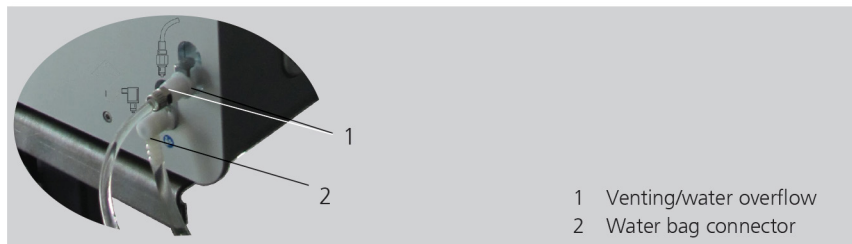

Fig. 7-3 Water hose connector.
- Connect the venting hose to the water connector at the top of the MAGNETOLITH (see Fig. 7-3 /1).